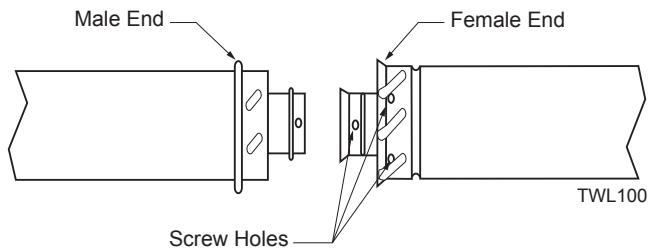

Figure 9 -
To join twist lock pipes together, simply align the beads of the male end with the grooves of the female end, twisting the pipe until the flange on the female end contacts external flange on the male end. It is recommended that you secure the joints with three (3) sheet metal screws, however, this is not mandatory with twist lock pipe. *Figure 9*